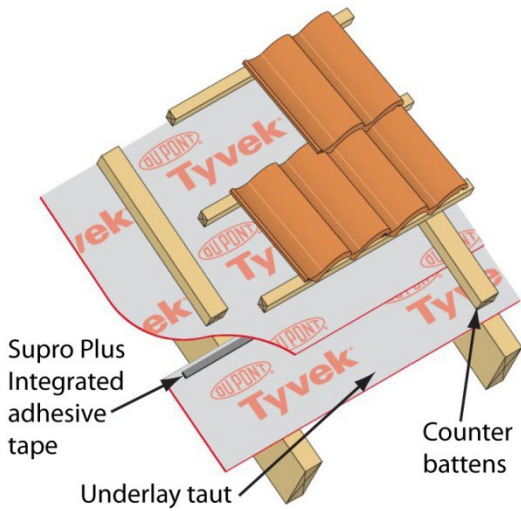

Figure 3
3. Cold roof - Non-ventilated & sealed taut (Figure 3)